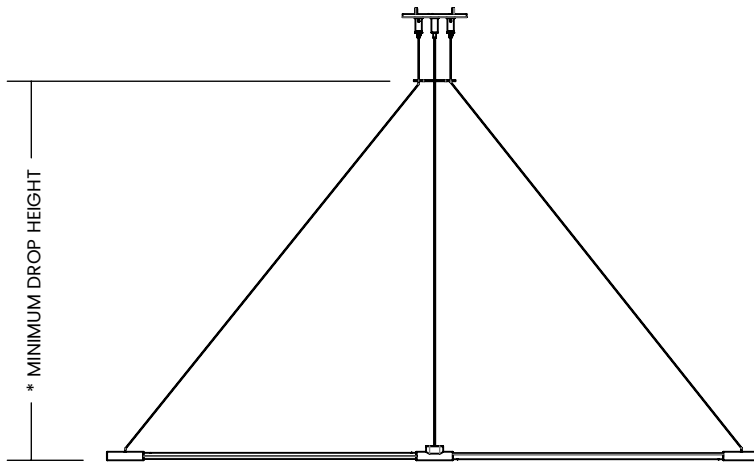

FIGURE 9
1. Drop the fixture's suspension height to meet the minimum requirement shown in Figure 9 to avoid damaging the light tubes.